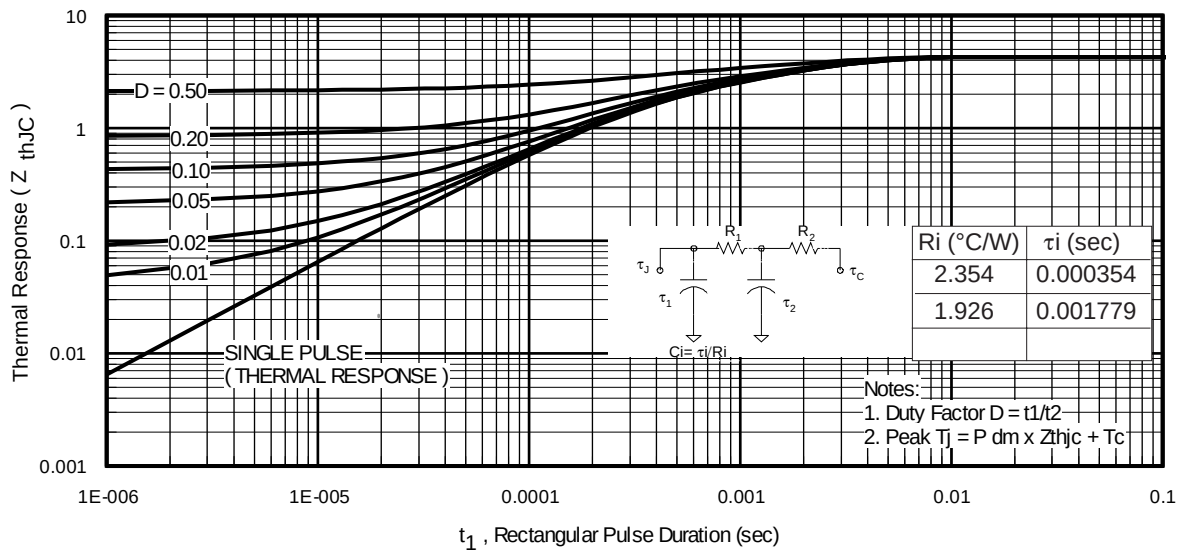
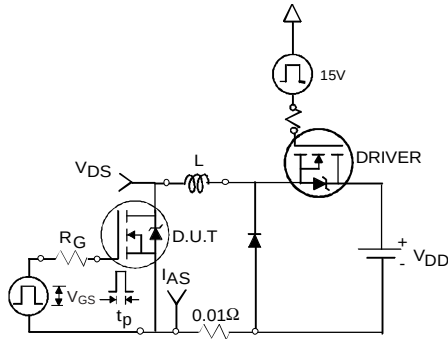

Fig 11. Maximum Effective Transient Thermal Impedance, Junction-to-Case
Fig 12a. Unclamped Inductive Test Circuit
3. Equation below based on circuit and waveforms shown in Figures 12a, 12b.
$Z_{thJC}(D, t_{av})$ = Transient thermal resistance, see figure 11)
- ① Repetitive rating; pulse width limited by max. junction temperature. (See fig. 11).
- ② Limited by T_{Jmax} , starting $T_J = 25^\circ\text{C}$, $L = 0.54\text{mH}$, $R_G = 25\Omega$, $I_{AS} = 9.6\text{A}$, $V_{GS} = 10\text{V}$. Part not recommended for use above this value.
- ③ Pulse width $\leq 1.0\text{ms}$; duty cycle $\leq 2\%$.
- ④ C_{OSS} eff. is a fixed capacitance that gives the same charging time as C_{OSS} while V_{DS} is rising from 0 to 80% V_{DSS} .
- ⑤ Limited by T_{Jmax} , see Fig.12a, 12b, 15, 16 for typical repetitive avalanche performance.
- ⑥ This value determined from sample failure population. 100% tested to this value in production.
- ⑦ When mounted on 1" square PCB (FR-4 or G-10 Material). For recommended footprint and soldering techniques refer to application note #AN-994.
- ⑧ $R_{\theta JA}$ measured at